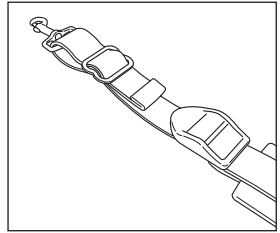

Figure 3.
3. Install the adjuster clip on the loose end of either of the shoulder straps. Install the pump clip on the loose end of the shoulder strap then route the strap back through the adjuster clip. **See Figure 3.** Adjust all straps as needed.